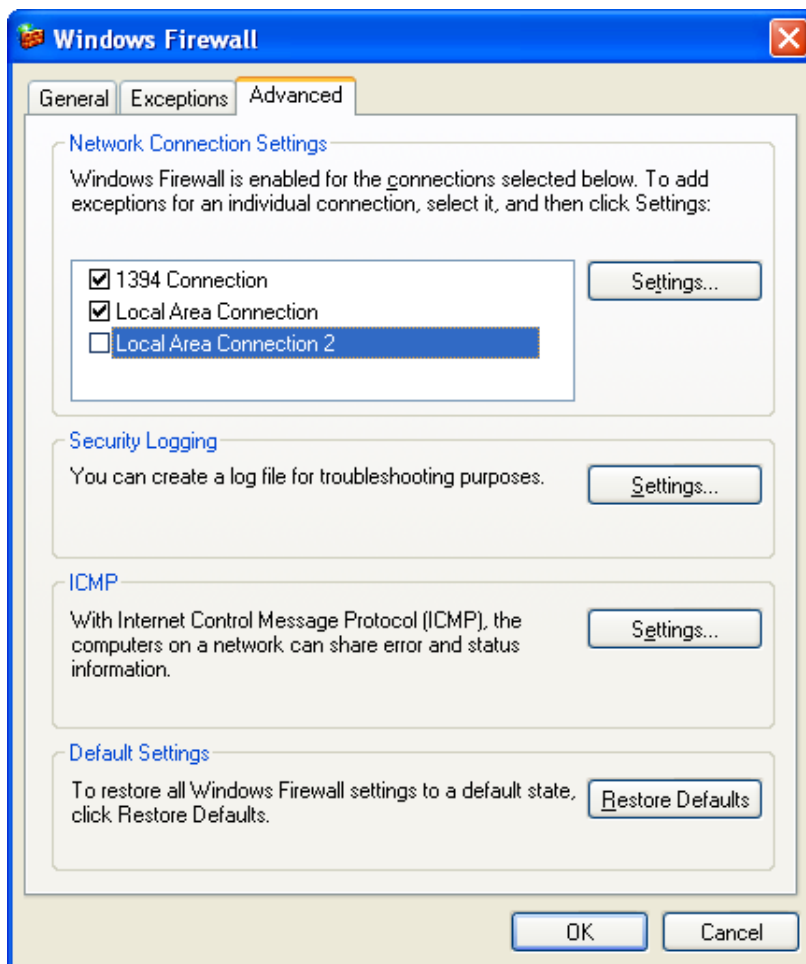

Figure 1.5: Windows Firewall Configuration
4. No firewall should be active on the network adapter where the Photonfocus GigE camera is connected. If the Windows Firewall is used then it can be switched off like this: Open the Windows Firewall configuration (Start -> Control Panel -> Network and Internet Connections -> Windows Firewall) and click on the Advanced tab. Uncheck the network where your camera is connected in the Network Connection Settings (see Fig. 1.5).